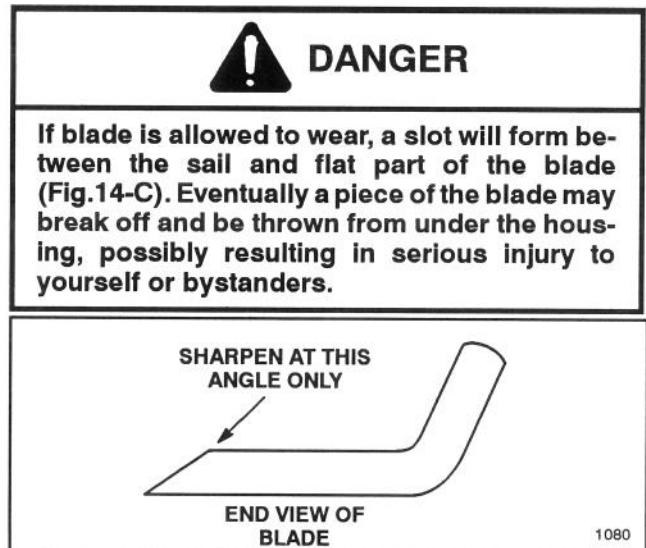

Figure 15
2. Examine cutting edges of all blade(s). Sharpen the cutting edges if they are dull or nicked. Sharpen the top of the cutting edge and maintain the original cutting angle to make sure of sharpness (Fig. 15). The blade will remain balanced if same amount of metal is removed from both cutting edges.